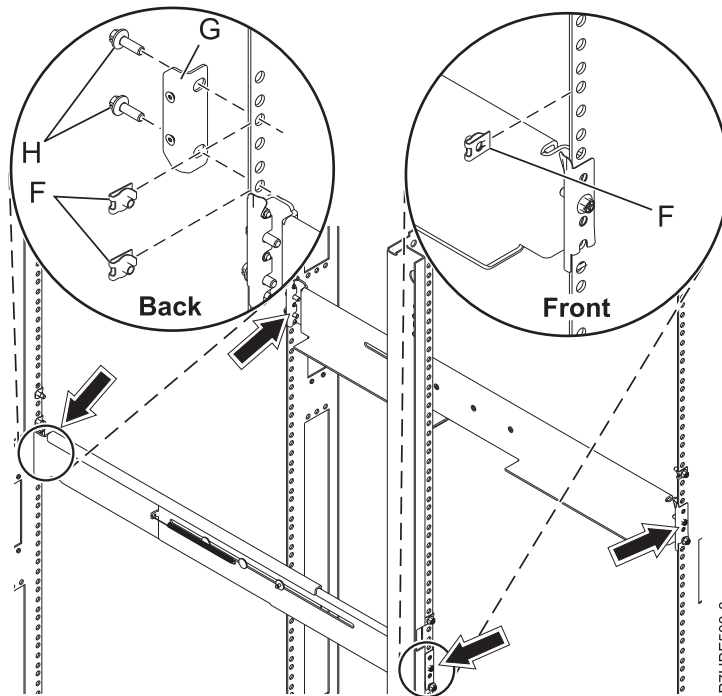

Figure 37. Installing the retention bracket
10. Use one M5 screw (E), below the top rail pin (D), to secure the right rail to the front of the rack.
11. Insert one nut clip at the marked location (A) on the front-left rail.
12. Insert one nut clip at the marked location (A) on the front-right rail.
13. Insert one nut clip (F) on the right side of the rack as shown in Figure 37 on page 46.
14. Insert one nut clip (F) on the left side of the rack as shown in Figure 37 on page 46.
15. From the back of the rack, insert two nut clips (F) on the right side of the rack as shown in Figure 37 on page 46.
16. Use two M5 screws (H) to attach the retention bracket (G) to the rack on the right side.
17. Insert two nut clips (F) on the left side of the rack as shown in Figure 37.
18. Use two M5 screws (H) to attach the retention bracket (G) to the rack on the left side.